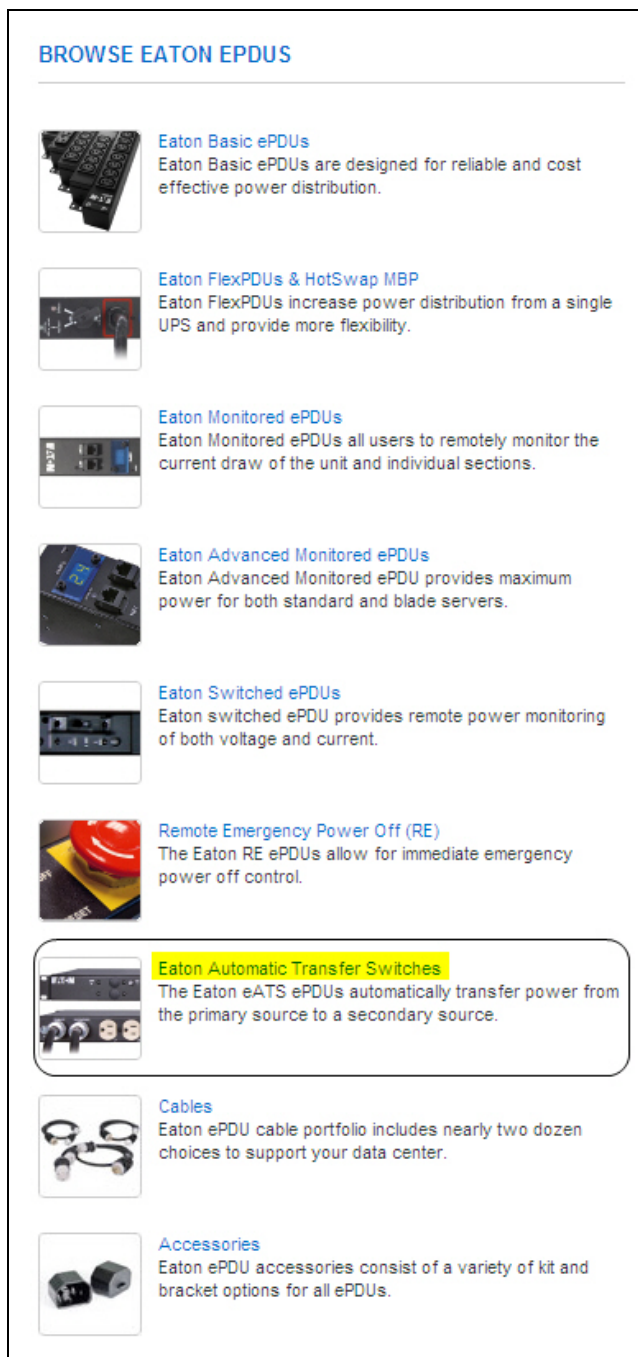

Figure 12. Eaton ePDU Browse Feature Selection
1. From the main ePDU page under the BROWSE EATON EPDUS list, click the **Eaton Automatic Transfer Switches** link (see Figure 12). The EATON EATS EPDUS main page displays.